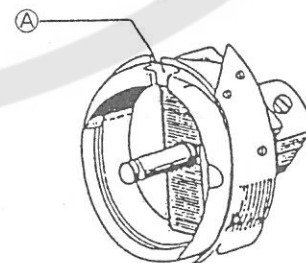

Fig. 26
- (1) Use the undertrimmer hook which has the bobbin thread guide slit (A) as shown in Fig. 26.